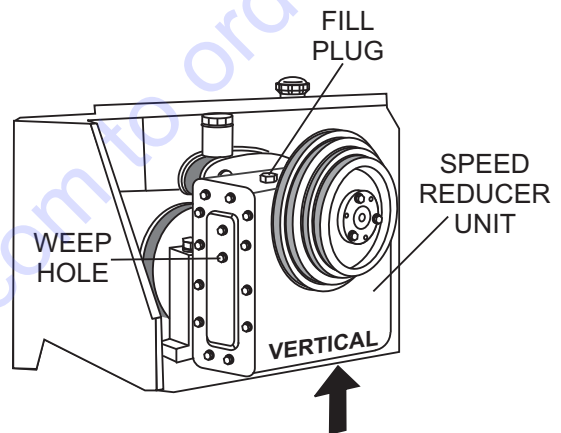

Figure 32. Speed reducer Unit (Vertical Position)
4. There are 2 plugs (Figure 32) located on the metal cover of the speed reducer unit.